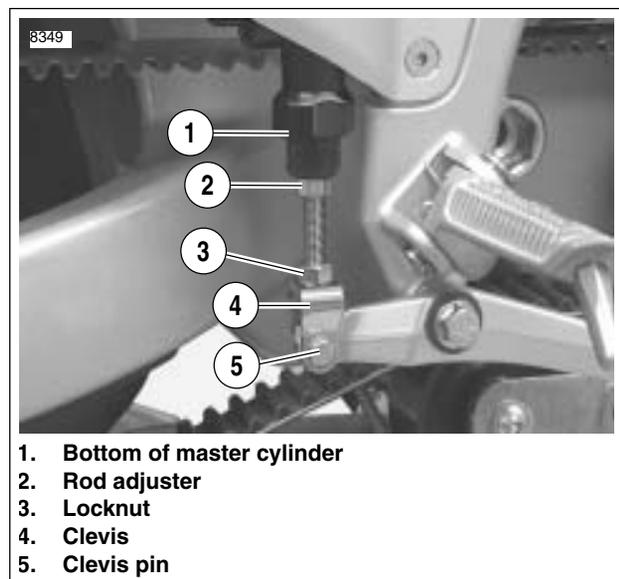

Figure 1-12. Pushrod Adjustment
1. See Figure 1-12. Inspect for minimum and maximum brake rod engagement in brake clevis (4). Adjust as required.
- a. See Figure 1-12. Loosen locknut (3) while holding rod adjuster (2). Move locknut away from top surface of clevis (4).
- c. Return locknut (3) to fit flush against top surface of clevis and tighten to 130-173.5 in-lbs (14.7-19.6 Nm).